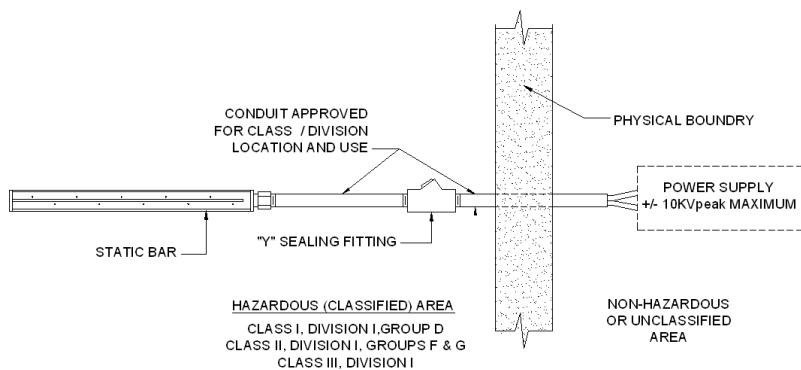

Figure 9. Conduit Requirements
The IQ POWER HL static bar requires the use of a “Y” conduit sealing fitting between the static bar and the physical boundary of the classified area. The high voltage wiring from the IQ POWER HL static bar must be properly prepared to ensure the sealing at the “Y” fitting(s). Refer to **Figure 9** for a typical location.
3. A “Y” sealing fitting is required between the static bar and the boundary, (physical separation between the Class 1 location and the non-hazardous or unclassified area). Refer to Section 4 for the proper installation of the “Y” sealing fitting. Refer to **Figure 9** for the typical location.